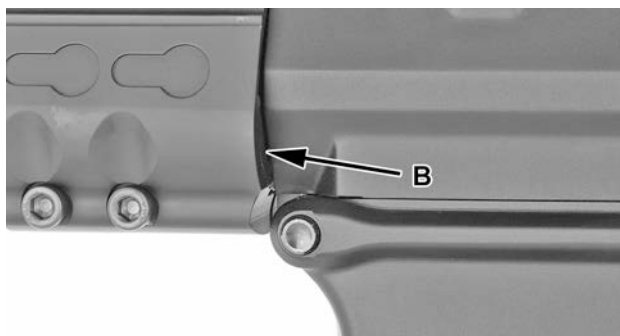

Figure 48
3. Slide handguard off end of rifle. Spacers (B) on each side are loose and may fall out when handguard is removed. See figure 48.